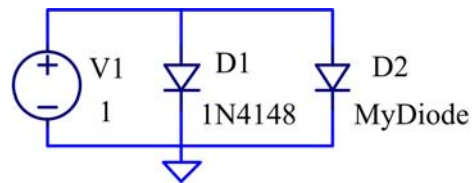

Figure 2: LTSpice simulation circuit for diode I-V sweep
- 3 Find out the current-voltage characteristics of the given diode in simulation using calculated PSPICE model parameters as Figure 2. Compare the simulation result with the test result.
As shown in Figure 2, by connecting the diode under study to a voltage source, the current through each diode vs. the voltage can be drawn using DC sweep function in LTSpice.